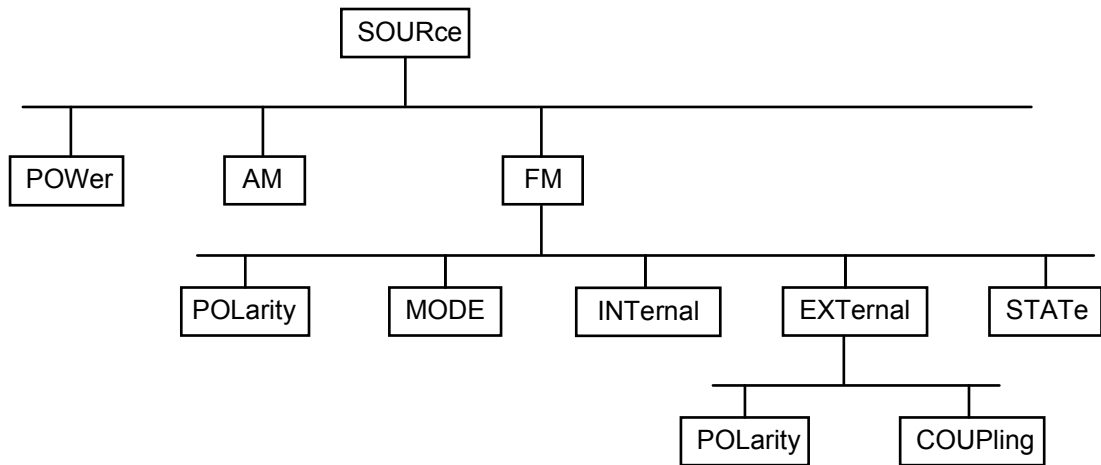

Fig. 5-1 Tree structure of SCPI command systems using the SOURce system as an example
SCPI (Standard Commands for Programmable Instruments) describes a standard command set for programming instruments, irrespective of the type of instrument or manufacturer. The objective of the SCPI consortium is to standardize the device-specific commands to a large extent. For this purpose, a model was developed which defines identical functions of a device or of different devices. Command systems were generated which are assigned to these functions. Thus it is possible to address identical functions with identical commands. The command systems are of a hierarchical structure. Fig. 5-1 illustrates this tree structure using a section of command system `SOURce`, which operates the signal sources of the devices. The other examples concerning syntax and structure of the commands are derived from this command system.
**Hierarchy:** Device-specific commands are of a hierarchical structure (see Fig. 5-1). The different levels are represented by combined headers. Headers of the highest level (root level) have only one key word. This key word denotes a complete command system.
If successive commands belong to the same system and thus have one or several levels in common, the command line can be abbreviated. To this end, the second command (after the semicolon) is started with the level that lies below the common levels (see also Fig. 5-1). The colon following the semicolon must be omitted in this case.